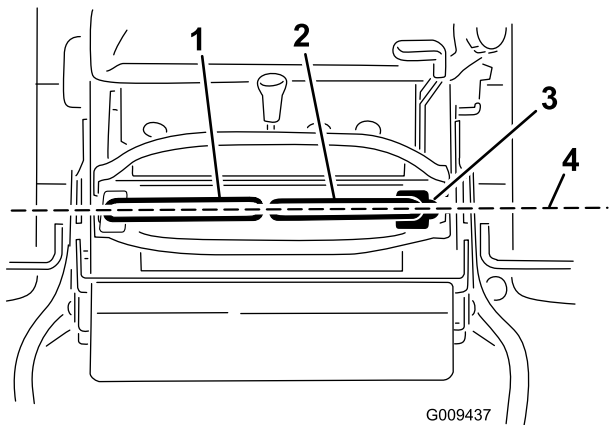

Figure 70
Important: Ensure the tracking of the mower is correct after adjusting the motion control levers. Adjusting the tracking and aligning the motion control levers front to back is the same procedure (Figure 70).
1. After the horizontal alignment is finished, check the front to back alignment (Figure 70).